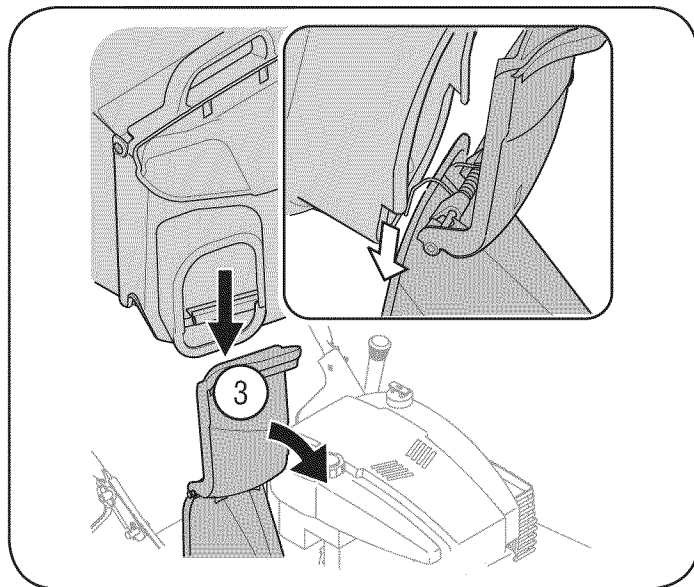

Figure 6
3. Lift chute door on the grass bag adapter and slide grass bag onto the adapter. See Figure 6.